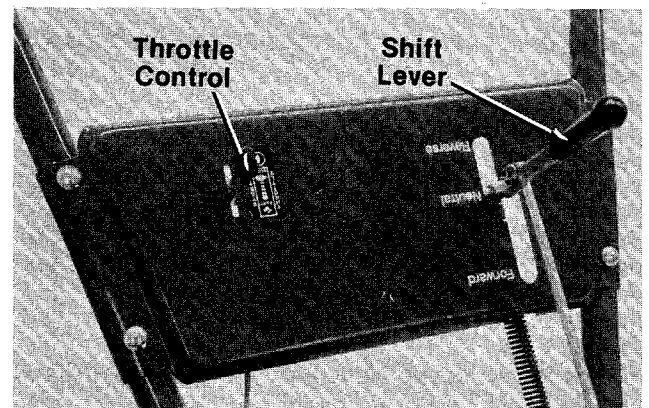

FIGURE 13.
1. Place the shift lever in the neutral (N) position. See figure 13.